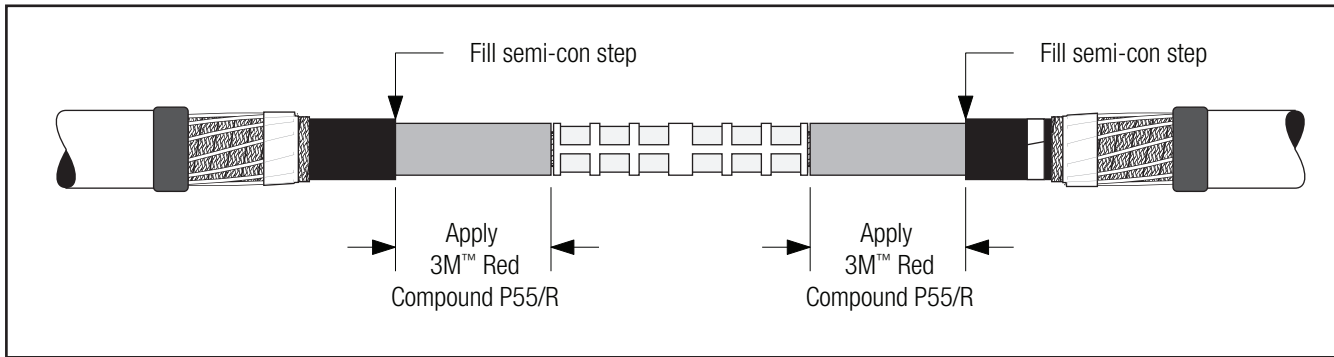

Figure 15
- 4.4 Apply 3M Red Compound P55/R on cable insulations, making certain to fill in edge of cable semi-con. **Do not use silicone grease** (Figure 15).